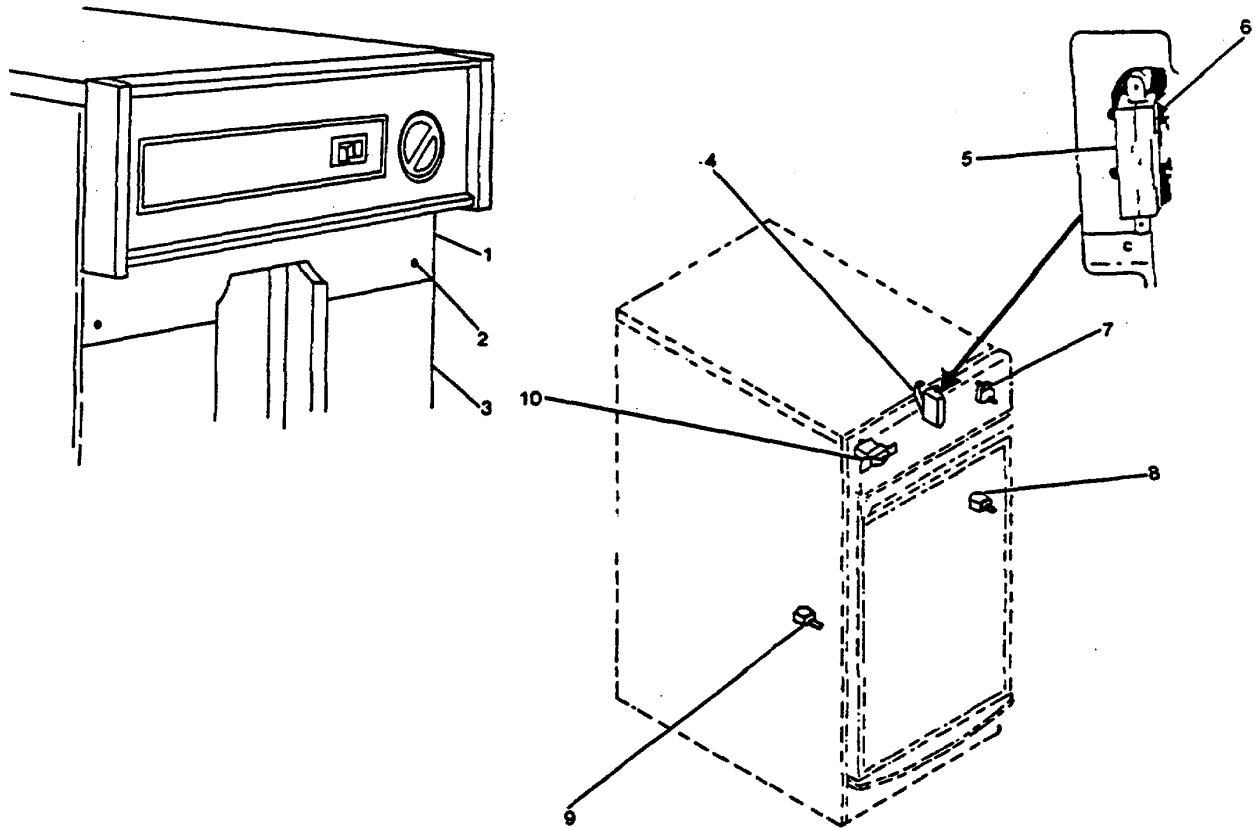
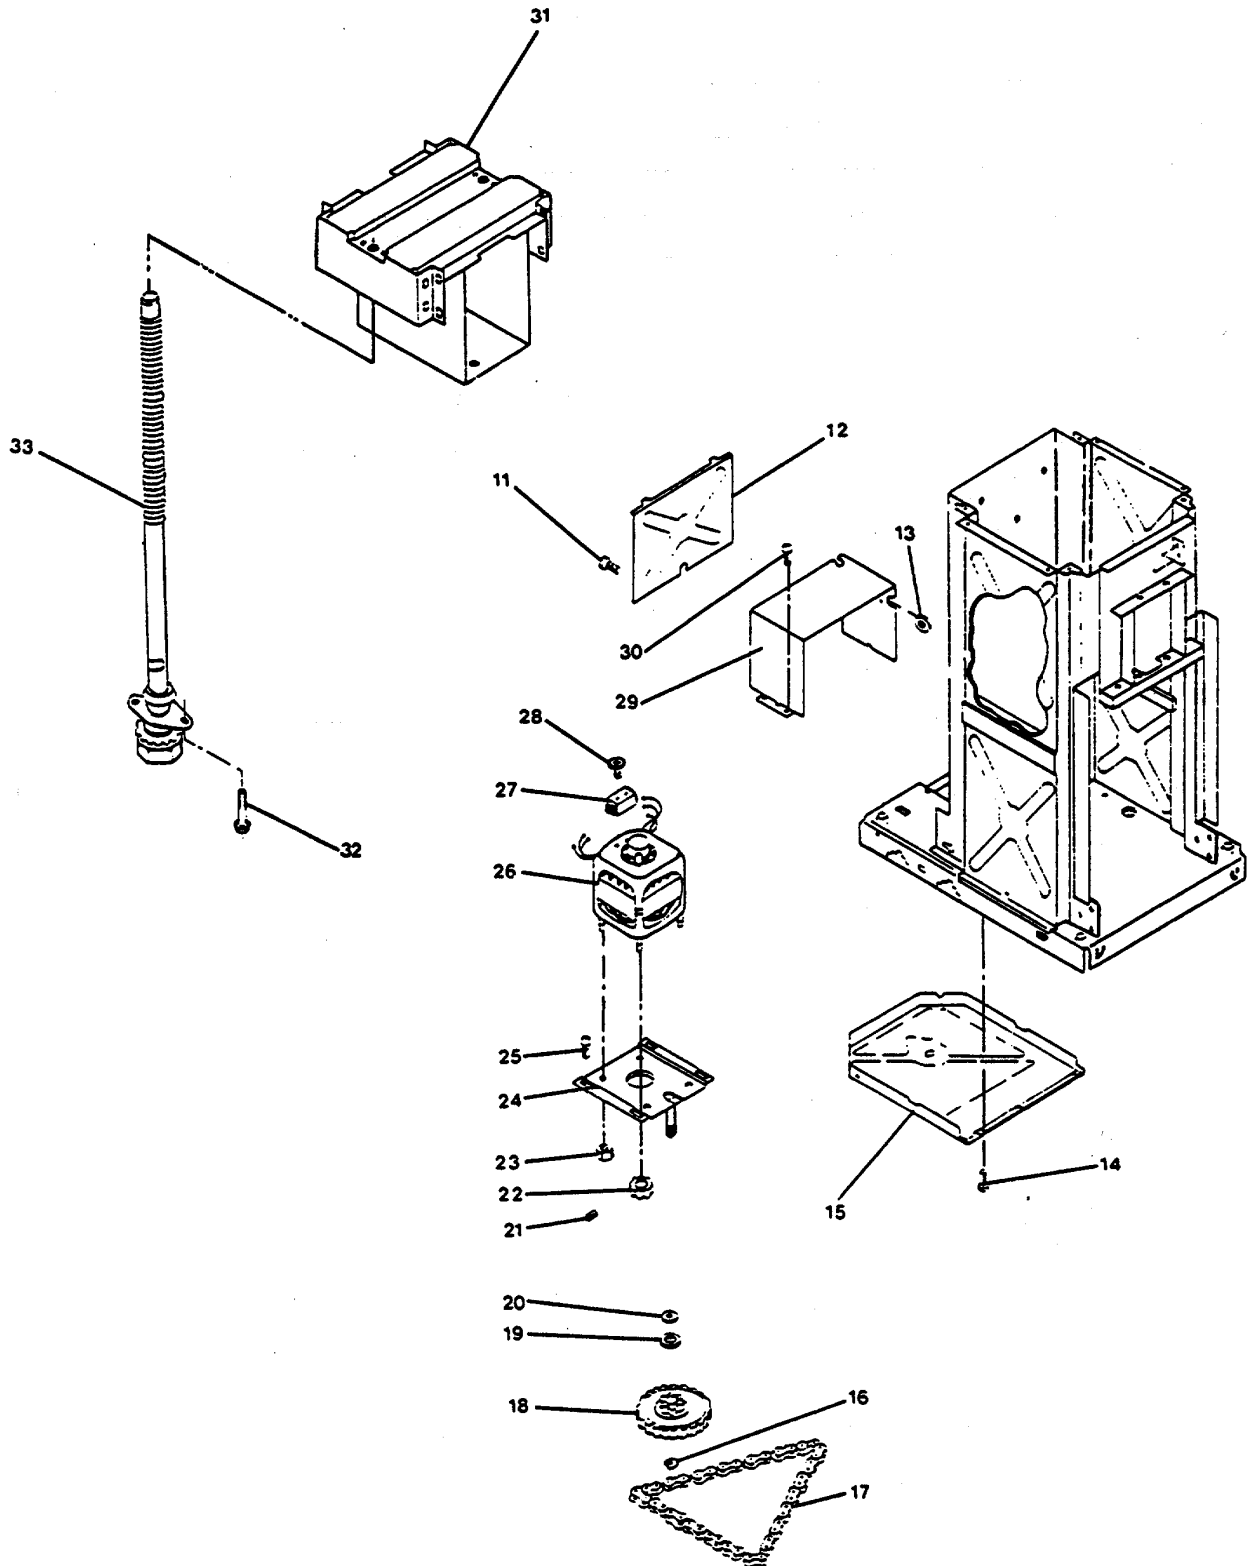

FIGURE 3-81. Compactor Switches.
FIGURE 3-82. *Repair Solid Waste Compactor.*
- a. Remove drawer (3, Figure 3-81).
- b. Remove machine screw (2) and remove control escutcheon (1).
- d. Remove screws (6) and nut plate (5).
- e. Remove top limit and directional sensitive switch (4).
- f. Remove drawer safety push switch (9).
- g. Remove lock ring and start-run rotary switch (7).
- h. Remove drawer tilt push switch (8).
- i. Remove toggle switch (10).
- j. Remove machine screw (11, Figure 3-82) and motor cover plate (12).
- k. Remove machine screw (30) motor cover (29).
Repair at this level of maintenance is by replacement of: start-run rotary switch (7, Figure 3-81), toggle switch (10), drawer tilt push switch (8), drawer safety push switch (9), top limit and directional sensitive switch (4), solid state switch (27, Figure 3-82), alternating current motor (26), power screw assembly (33).
- b. Install drive motor on mount plate (24) and attach with locknut (23).
- c. Install drive chain (17).
- d. Slide drive motor (26) back and tighten machine bolt (25).
- e. Install wave washer (20), thrust washer (19), driven gear (18) and clip ring (16).
- f. Install power screw assembly (33) and attach with machine screw (32).
- g. Turn driven gear (18) until power screw assembly engages ram (31).
- h. Install bottom pan (15) and attach with machine screw (14).
- i. Install solid state switch (27) and attach with machine screw (28).
- j. Install motor cover (29) and attach with machine screw (30).
- k. Install motor cover plate (12) and attach with machine screw (11).
- l. Install toggle switch (10, Figure 3-81).
- m. Install drawer tilt push switch (8).
- n. Install start-run rotary switch (7) and lock ring.
- o. Install drawer safety push switch (9).
- p. Install top limit and directional sensitive switch (4).
- q. Install nut plate (5) and screws (6).
- s. Install control escutcheon (1) and attach with machine screw (2).
- t. Insert and close drawer (3).
**3-86. Repair R-30 Mechanical Refrigerator - Refrigeration Evaporator Coil. (Figure 3-82).**